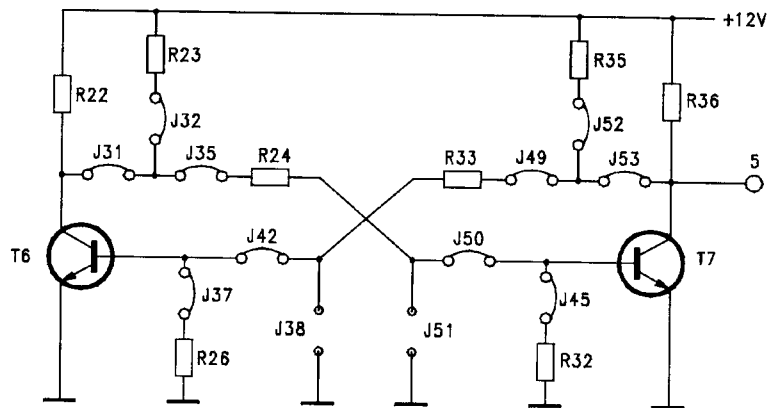

fig. B39.3
- Insert jumpers J31, J32, J35, J37, J42, J45, J49, J50, J52, J53 to produce the circuit of figure B39.3.